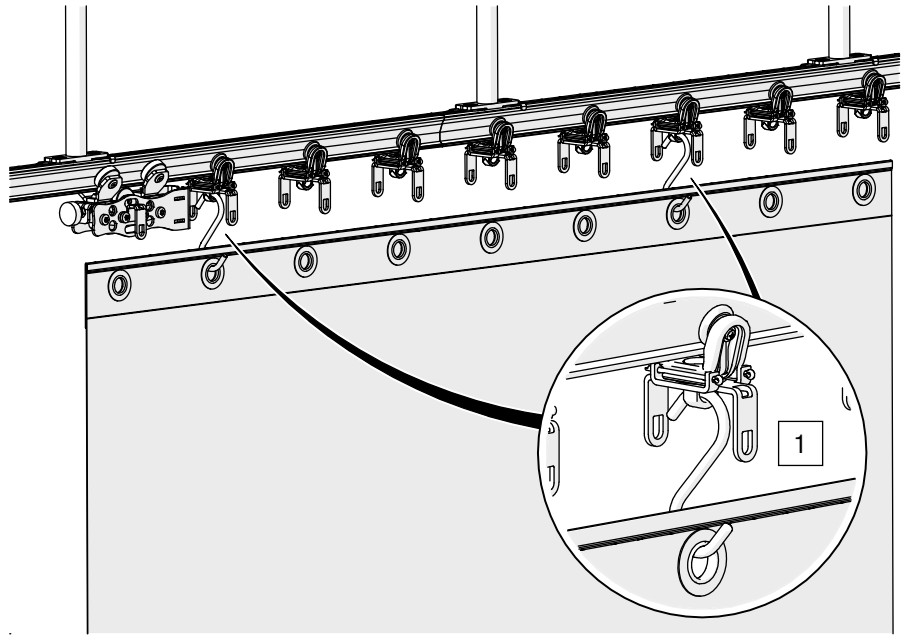

Fig. 103: Inner layers – Pre-position with mounting material (e.g. S-hook)
1. Hang the inner layers on every fifth G-TRACK OFFICE double-wheel curtain runner for pre-positioning using suitable mounting material (e.g. S-hook) (see Fig. 103).